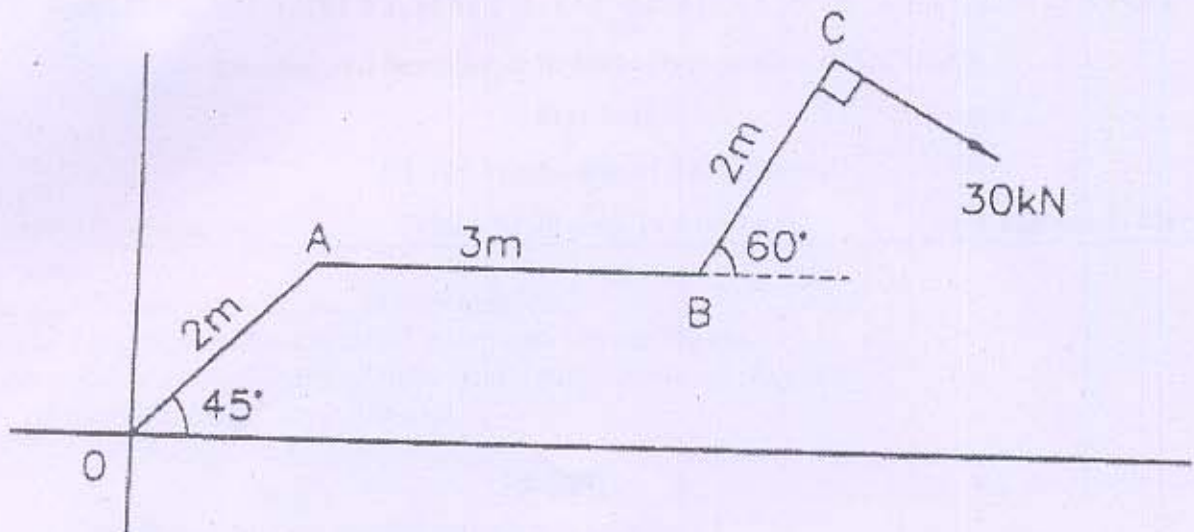

Figure 5
- (c) Find the moment of force 30kN about point 'O' shown in Figure 5. [03]